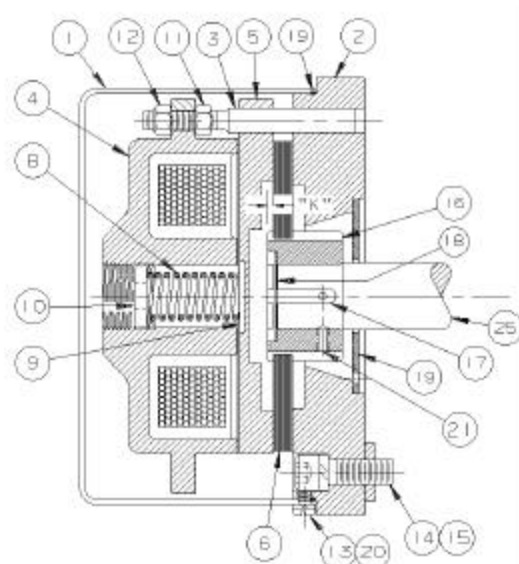

FIGURE 1. BRAKE ASSEMBLY
Refer to FIGURE 1 for a mechanical picture of the brake. Rotating mechanical power to the brake is provided by a drive shaft (25), that drives the brake lining disc (6), through the brake spline hub (16). Braking is achieved by spring (8) pressure being applied to the armature plate (5) that places pressure on the brake lining disc (6). Rotating mechanical power is then absorbed and converted to heat and dissipated through the armature plate (5) and the mounting plate (2). When the magnet shunt wound coil is electrically energized, it pulls the armature plate (5) towards the magnet pot (4) releasing the spring (8) pressure on the brake lining disc (6), which removes braking pressure and allows the drive shaft (25) to rotate freely.
3. Spline hub (16) and drive shaft (25) must not extend (dimension "K") 0.187" for model DB-0, 0.25" for model DB-2, or 0.25" for model DB-4 beyond the outer brake lining disc (6), otherwise, the brake will not operate. See FIGURE 1, page 1.
4. Spline hub (16) must be securely fastened to the drive shaft (25). Locating dimension "K" must be held by one of the following three methods:
- a. PREFERABLE METHOD - Provide a Class RC2* sliding fit between the spline hub (16) and the drive shaft (25). Hub shall be keyed (17) (minimum AISI 1018 CDS keystack) to the drive shaft (25). A retaining ring (18) shall be installed on the drive shaft (25) to prevent the key (17) and spline hub (16) from backing off the shaft. A shaft (25) shoulder should be provided to prevent hub (16) movement in the opposite direction.
- b. ACCEPTABLE METHOD - Provide a Class LN3* location interference fit between the spline hub (16) and the drive shaft (25). Using a 3/16 inch diameter drill, indent key (17) and shaft (25) through both set screw holes in hub (16). Then firmly install both set screws (21) to lock the hub (16) on the shaft (25).
- c. ACCEPTABLE METHOD - Provide a Class RC1 to RC2* running or slide fit between the spline hub (16) and the drive shaft (25). Apply "LOCKTITE NO. 271 THREADLOCKER" between hub (16) and shaft (25) to prevent the key (17) and spline hub (16) from backing off the shaft. Using a 3/16 inch diameter drill, indent key (17) and shaft (25) through both set screw holes in hub (16). Then firmly install both set screws (21) to lock the hub (16) into the shaft (25).